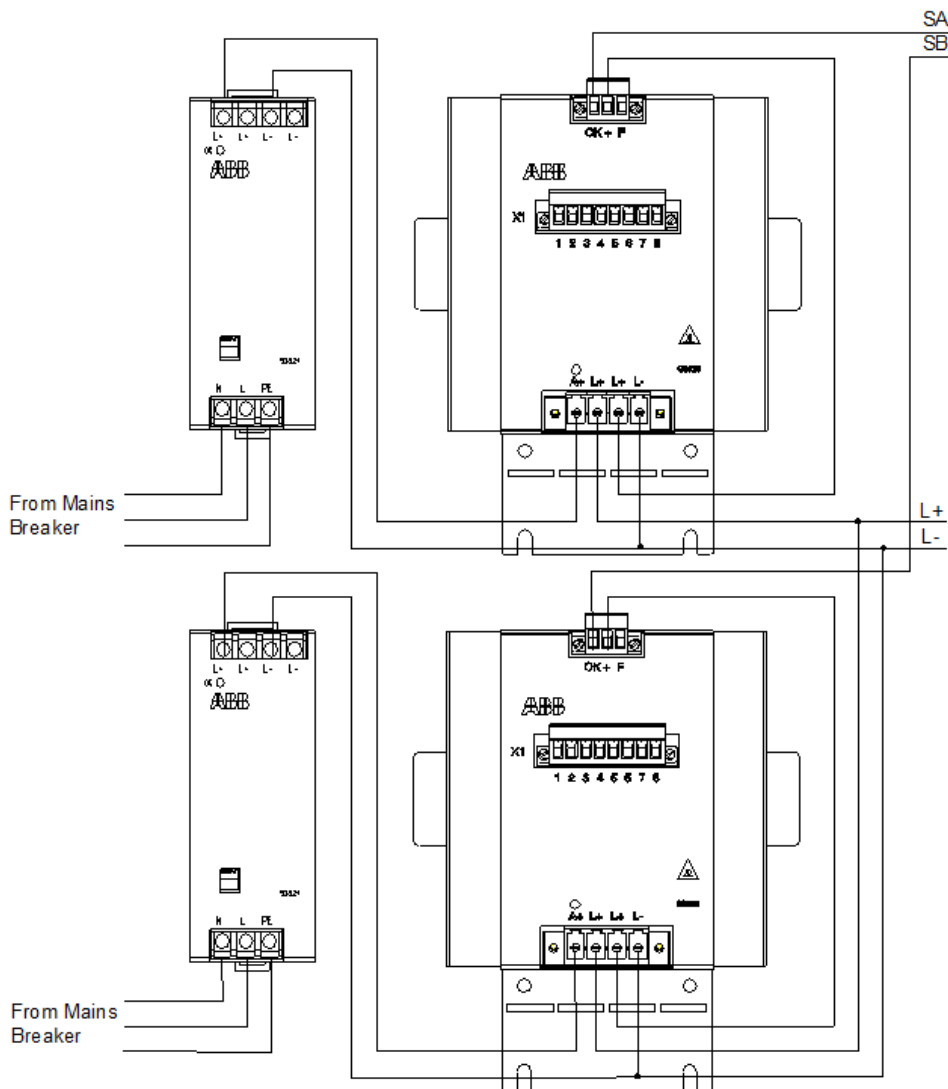
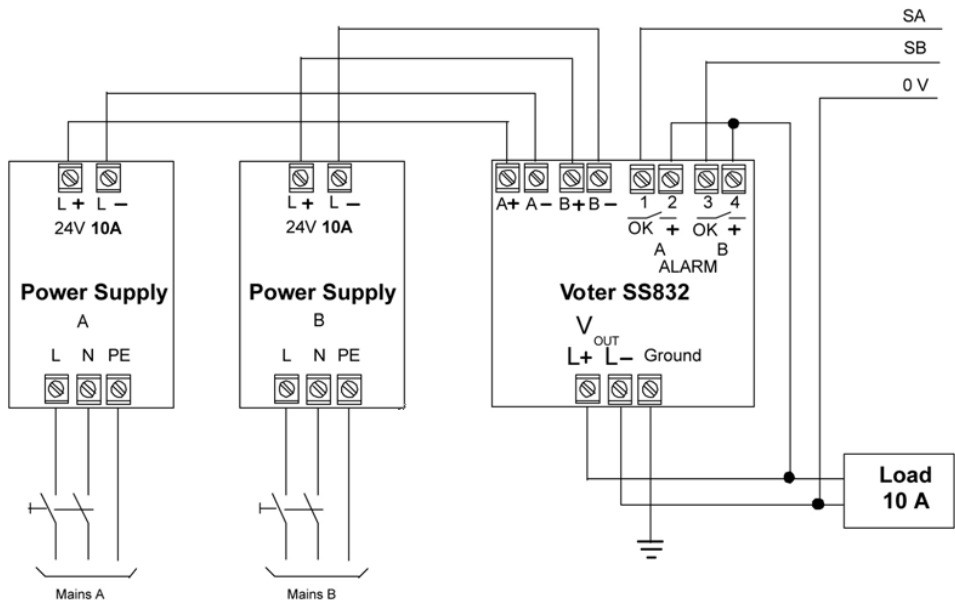
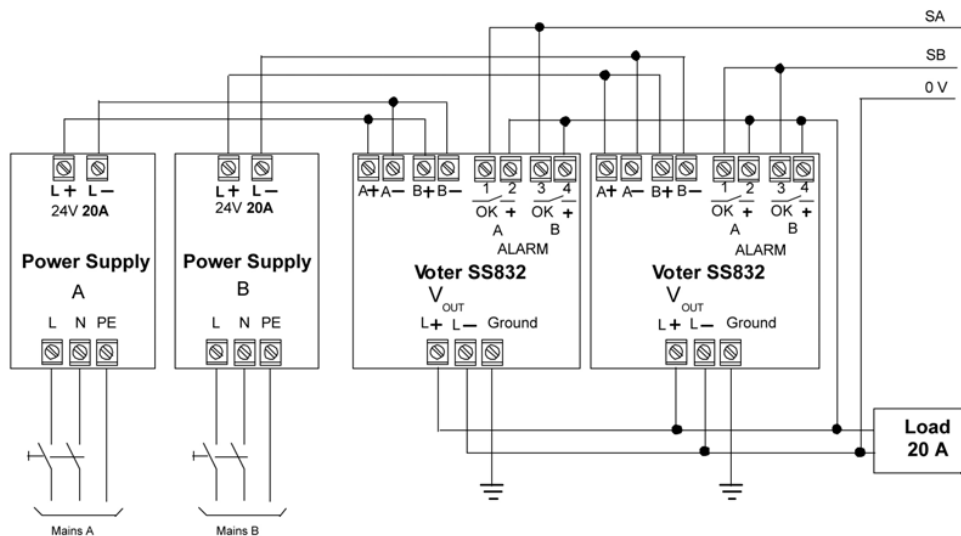

Figure 2.34: Redundant Power Supply for SS823
Figure 2.35: SS832 Redundant Configuration up to 10 A
Figure 2.36: SS832 Redundant Configuration up to 20 A
The SS8xx voting unit is used to connect two redundant power supplies to a common load. Depending on the system configuration requirements, the two redundant power supplies may be connected to completely separate mains supplies or to the same mains supply, as shown in Figure 2.34 on page 133 for SS823, Figure 2.35 on page 134, and Figure 2.36 on page 135 for SS832.
2. Connect the voting unit to the selected SD83x power supply units, in required configuration. See Figure 2.35 on page 134 and Figure 2.36 on page 135 for SS832.